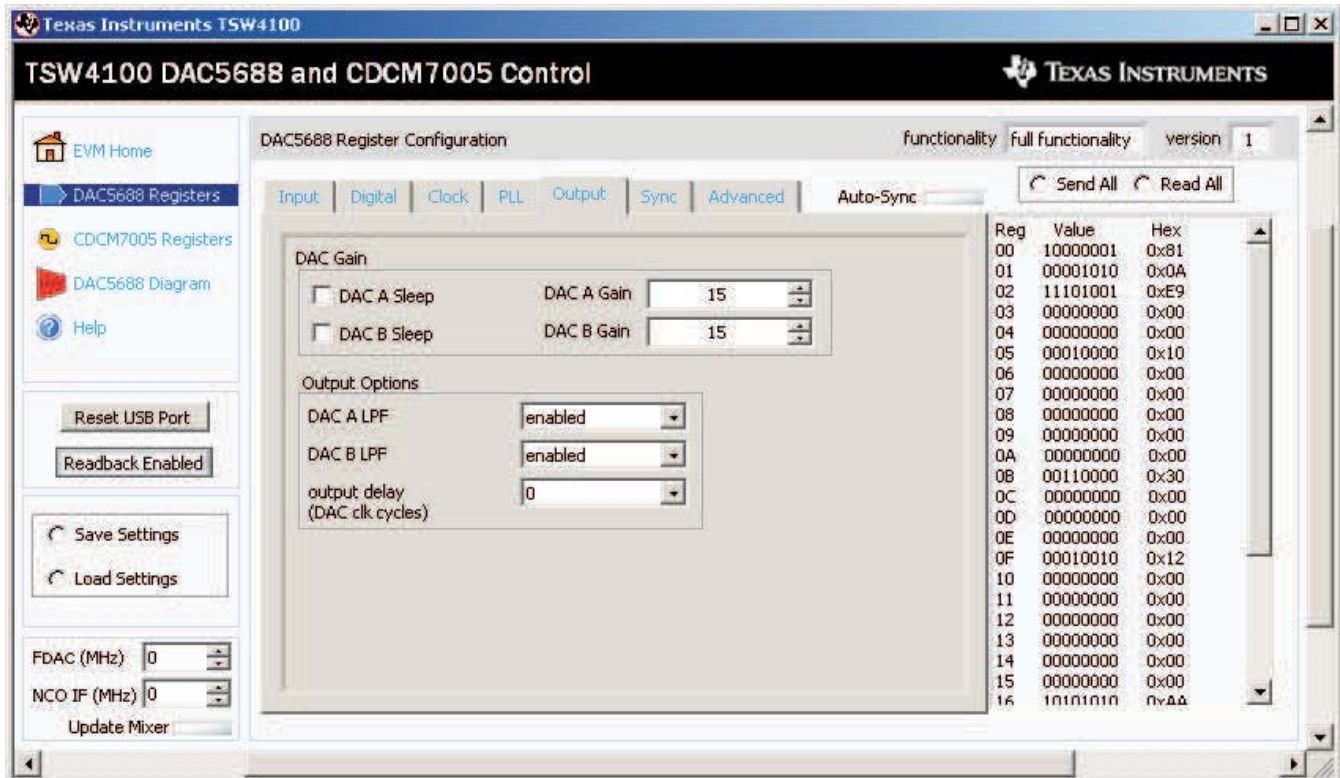

Figure 20. DAC Gain
6. Click on the *Output* tab. The GUI display shall now look as shown in Figure 20. In this window, the user can change the DAC gains, turn on or off the two DAC channels, and modify the DAC output delays and enable or disable the LPF option for each DAC.